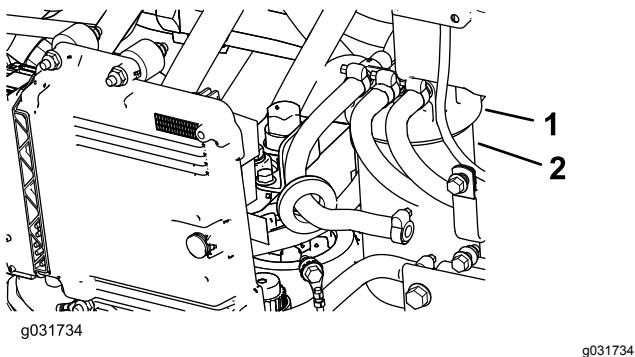

Figure 89
1. Clean the area around the fuel-filter head (Figure 89).
2. Remove the filter and clean the filter-head-mounting surface (Figure 89).